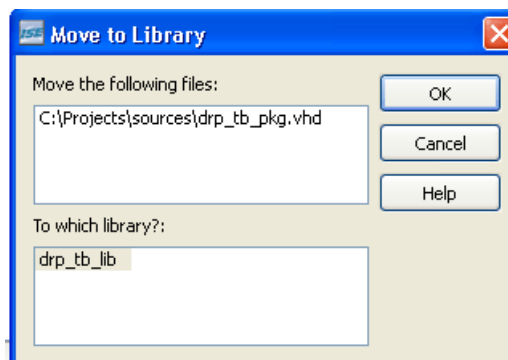

Figure 2-9: Move to Library Window
5. Click **OK**. (Refer to Figure 2-9.)